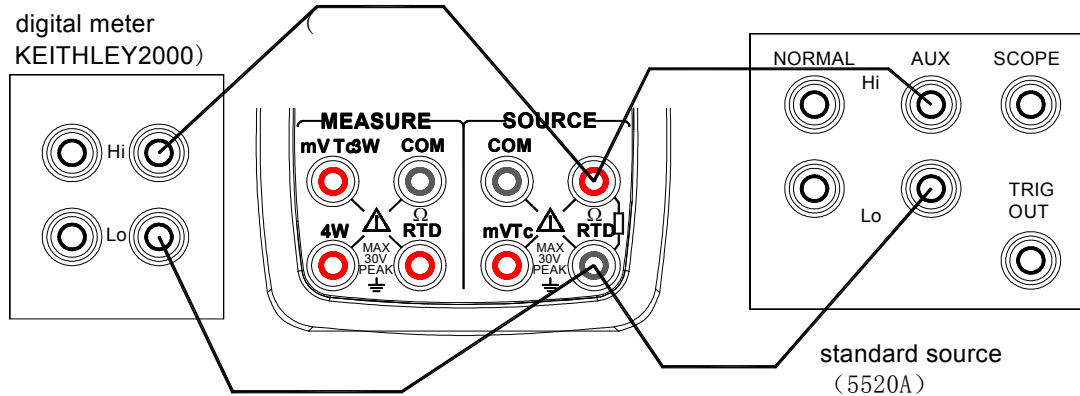

Figure 15 Adjusting resistance source
Step 1: Using the (**OHM**) key, select resistance function. Connect the lead cables for measurement to the standard digital meter as shown in Figure 15.